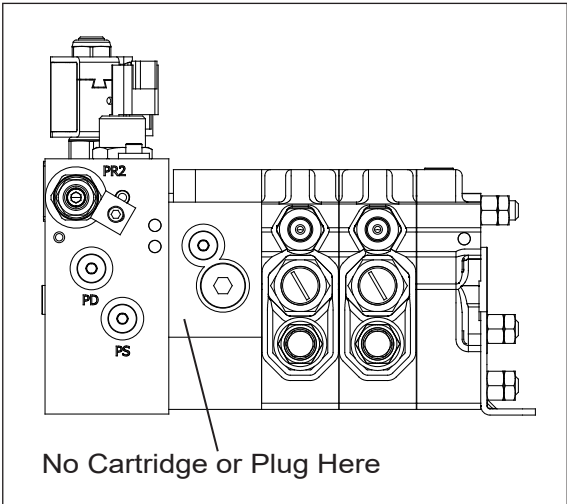

Figure 3 – Valve with No Cartridge or Plug
- If there is no hex head cartridge or round head hex socket plug at this location (refer to Figure 3), there is no issue with the valve. Reinstall the lower cover if it was removed, and return the unit to service. Complete the Inspection Sheet at the end of the CSN and return it to Altec as specified.